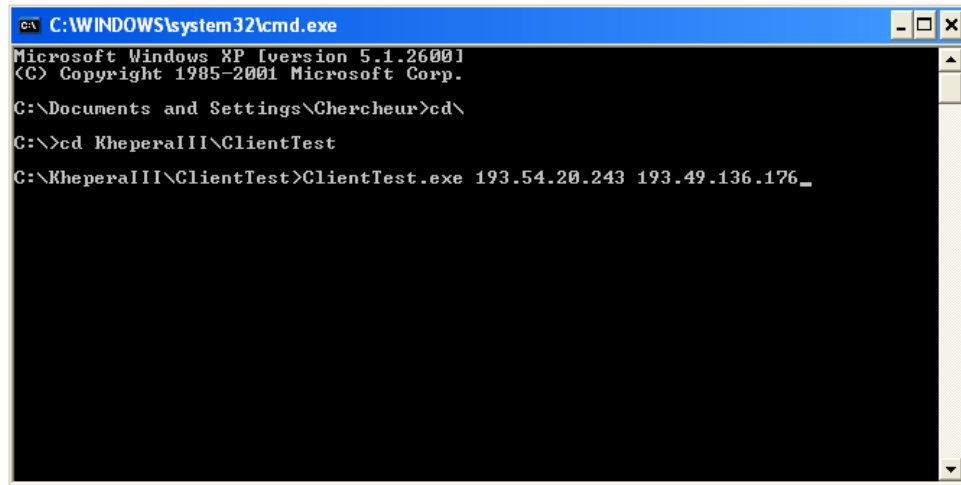

Figure 10: EVaRT test program.
- Run in a computer inside the LAN the give program **ClientTest.exe** <localIP> <CortexIP>, like in figure 10⁴.